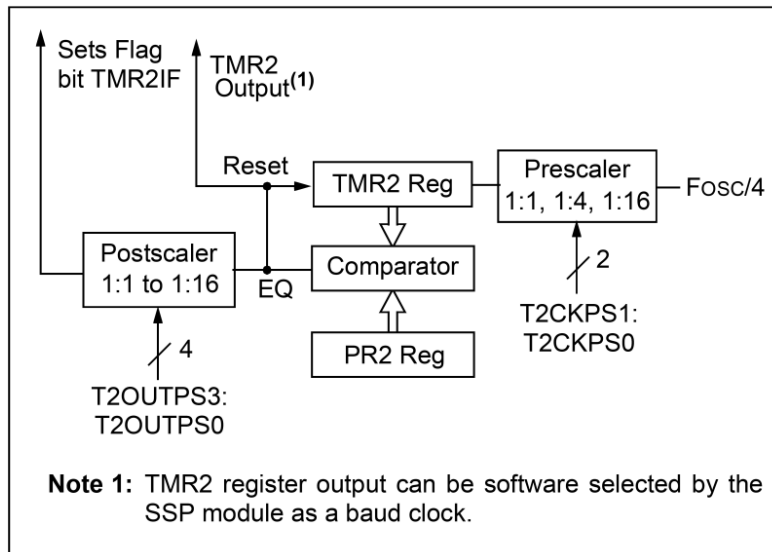

Figure 3(a) Timer 2 configuration for a delay of 128µs.
- a) A Timer 2 is used to generate a delay of 128µs, as shown in block diagram in Figure 3(a).